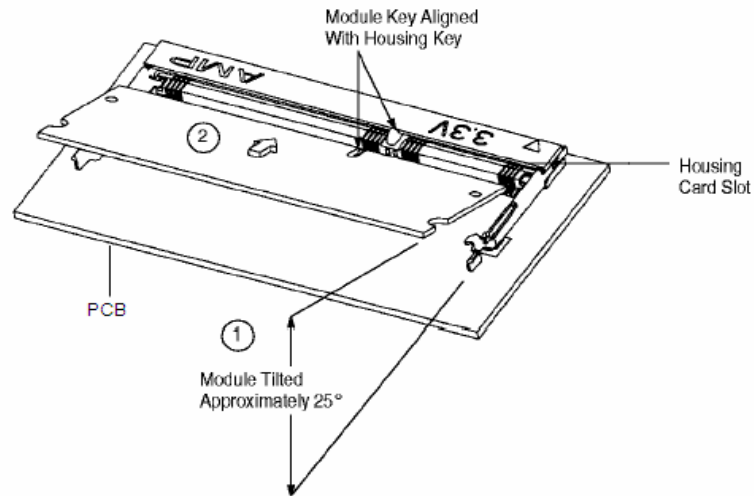

Figure 1: Inserting the module into the development board SO-DIMM connector, steps 1 & 2
- 1 Align the module key with the housing key (see Figure 1).
- 2 Slide the module into the housing (see Figure 1),